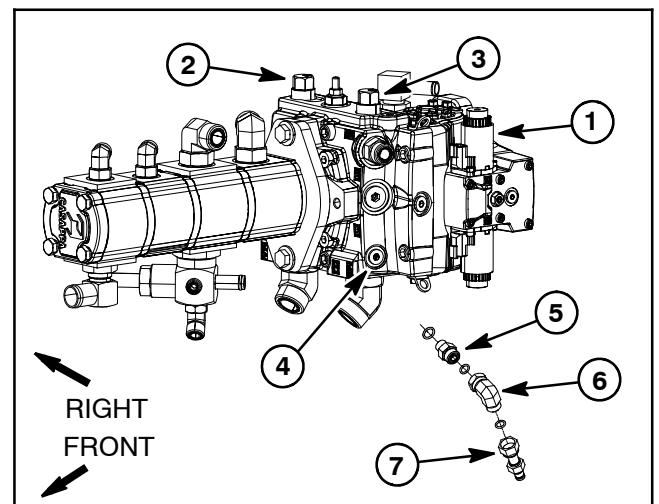

Figure 40
B. For testing the reverse traction circuit, a test fitting needs to be temporarily installed in the piston (traction) pump reverse traction port on left side of pump (Fig. 40). Thoroughly clean side of pump around plug to prevent system contamination. Remove plug from pump reverse traction port and then install straight fitting, 90° fitting and diagnostic test fitting into pump port (see Special Tools in this chapter for fitting part numbers).
8. If traction pressure is too low, make sure that bypass valve on traction pump is fully seated and then inspect traction pump relief valve in piston (traction) pump (Fig. 40). Clean or replace valves as necessary. These cartridge type valves are factory set and are not adjustable. If relief valves are in good condition, piston (traction) pump, wheel motors and/or rear axle motor should be suspected of wear and inefficiency.